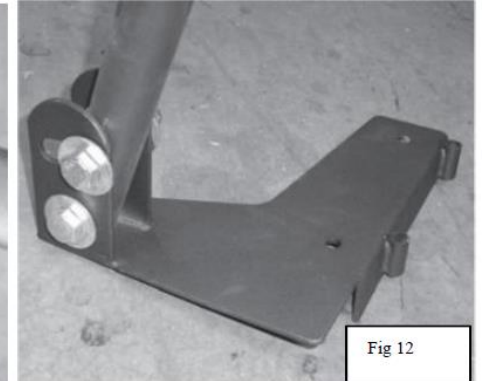

Fig 12
5. Install the rear driver's side mounting foot to the bottom of the rear driver's side upright. Bolt the upright to the mounting foot using 2 # 18 x 100 mm bolts, flat washers, spring washers, and locknuts. (Fig 12)